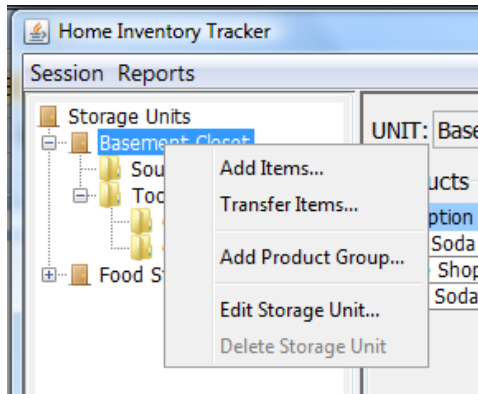
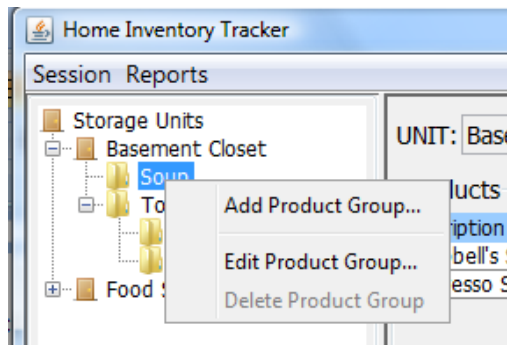
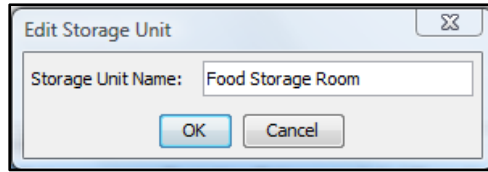

Figure 3 - Storage Unit Context Menu
Figure 4 - Product Group Context Menu
Figure 10 - Edit Storage Unit View
- 2) The Storage Unit Context Menu (Figure 3) is accessed by selecting and then right-clicking on a storage unit node in the Storage Unit / Product Group tree. This menu provides the following operations:
- 3) The Product Group Context Menu (Figure 4) is accessed by selecting and then right-clicking on a product group node in the Storage Unit / Product Group tree. This menu provides the following operations:
The user can edit an existing Storage Unit by selecting the “Edit Storage Unit” option in the Storage Unit Context Menu (Figure 3). This menu option is always enabled. When this option is selected by the user, the Edit Storage Unit View (Figure 10) is displayed.
The user can delete an existing Storage Unit by selecting the "Delete Storage Unit" option in the Storage Unit Context Menu (Figure 3). This menu option is enabled only if the selected Storage Unit does not contain any Items (including its Product Groups). In other words, before being allowed to delete a Storage Unit, the user must first remove all Items from the Storage Unit, or transfer them to other Storage Units. A Storage Unit can be deleted if it contains Products, as long as there are no Items.
The user can add a new Product Group by selecting the "Add Product Group" option in the Storage Unit Context Menu (Figure 3) or the Product Group Context Menu (Figure 4). This menu option is always enabled. When this option is selected by the user, the Add Product Group View (Figure 11) is displayed.
The user can edit an existing Product Group by selecting the "Edit Product Group" option in the Product Group Context Menu (Figure 4). This menu option is always enabled. When this option is selected by the user, the Edit Product Group View (Figure 12) is displayed.
The user can delete an existing Product Group by selecting the "Delete Product Group" option in the Product Group Context Menu (Figure 4). This menu option is enabled only if the selected Product Group does not contain any Items (including its sub Product Groups). In other words, before being allowed to delete a Product Group, the user must first remove all Items from the Product Group, or transfer them to other Product Containers. A Product Group can be deleted if it contains Products, as long as there are no Items.